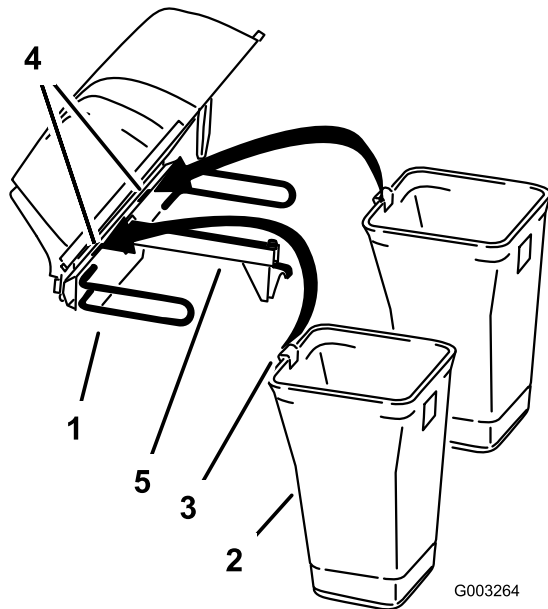
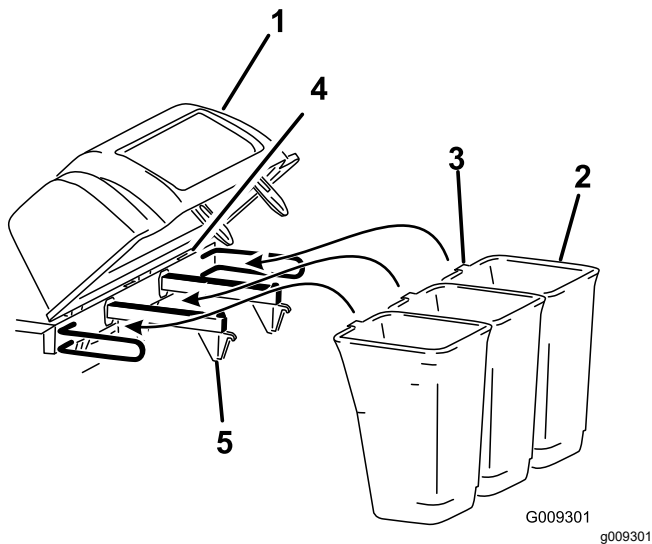

Figure 8
Figure 9
6. Install the bag tab into the notch in the hood assembly (Figure 8 or Figure 9).